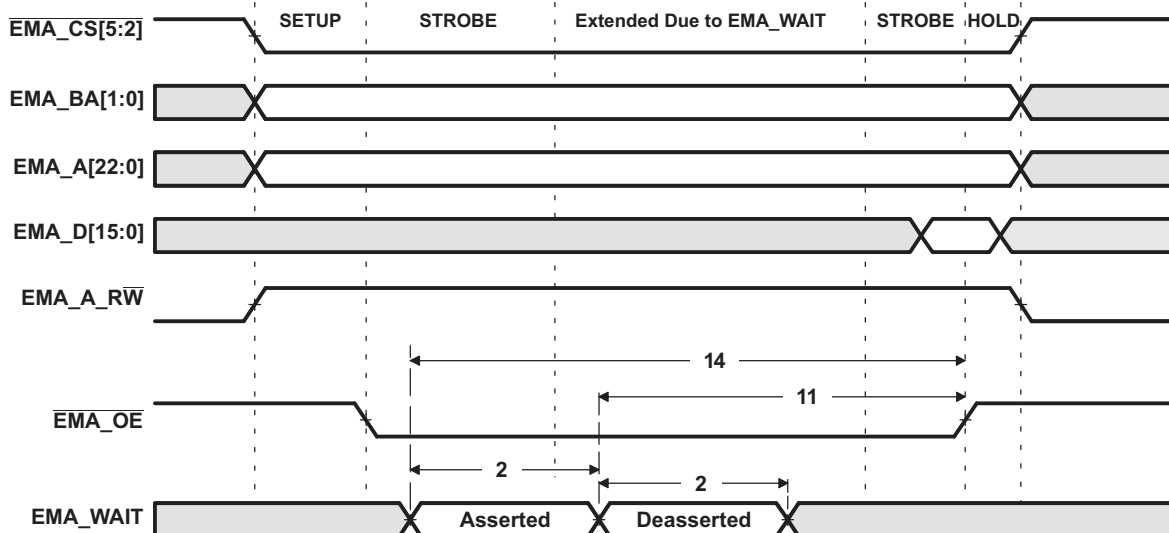
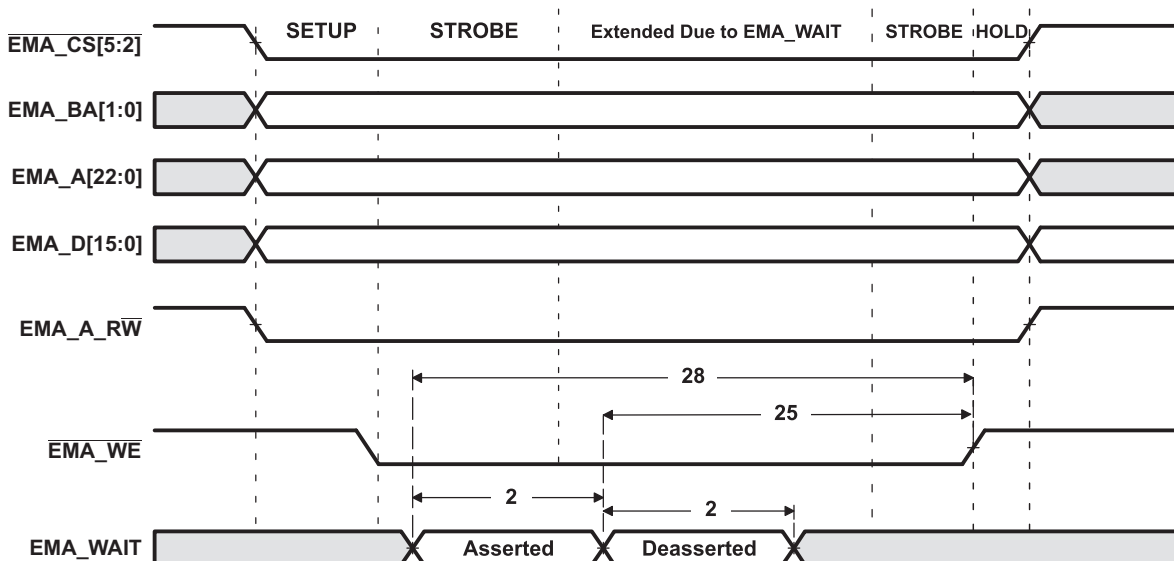

Figure 5-16. EMA\_WAIT Read Timing Requirements
Figure 5-17. EMA\_WAIT Write Timing Requirements
- (1) E = EMA\_CLK period or in ns. EMA\_CLK is selected either as SYSCLK3 or the PLL0 output clock divided by 4.5. As an example, when SYSCLK3 is selected and set to 100MHz, E=10ns
- (2) Setup before end of STROBE phase (if no extended wait states are inserted) by which EM\_WAIT must be asserted to add extended wait states. Figure 5-16 and Figure 5-17 describe EMIF transactions that include extended wait states inserted during the STROBE phase. However, cycles inserted as part of this extended wait period should not be counted; the 4E requirement is to the start of where the HOLD phase would begin if there were no extended wait cycles.
**Table 5-24. Switching Characteristics for EMIFA Asynchronous Memory Interface (1) (2) (3)**